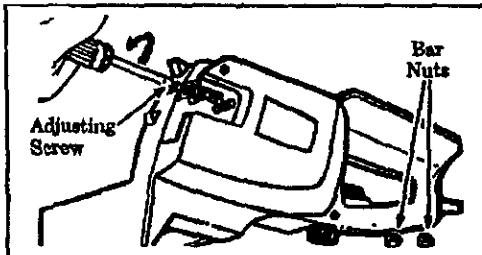

Figure 6
- Turn the adjusting screw (Figure 6) counter-clockwise to move the adjusting pin almost as far as it will go to the rear. Do not remove the adjusting screw from the unit.